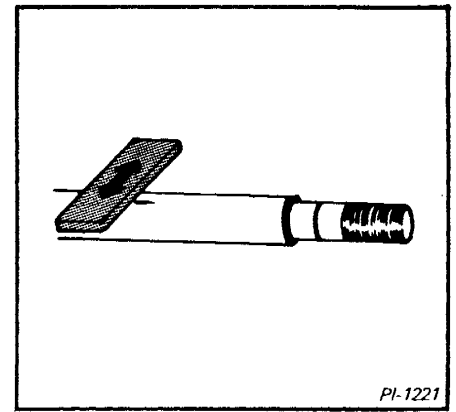

Fig. 1-34 Remove Marks on Shaft
- (1) A scratch or other mark on the cylinder rod can cause seal damage and leakage.
**NOTE:** Inspect the cylinder rods at regular intervals by moving your hand along the length of the rod with the rod fully extended. Carefully remove any scratches or marks on the cylinder rod with a pocket stone (Fig. 1-34).
- (2) Small holes at either of the hydraulic cylinder ports can cause leakage. You can weld the holes closed with a gas or electric (arc) weld. Extend the cylinder rod when you weld at the pivot end to keep heat from causing damage to the piston seals. Loosen fittings to release pressure. Disassemble the cylinder when you weld at the rod end of the cylinder. Use a low hydrogen type welding rod (7018). Do not fasten the ground clamp for the electric (arc) welder to the cylinder rod. This could cause damage to the cylinder rod.